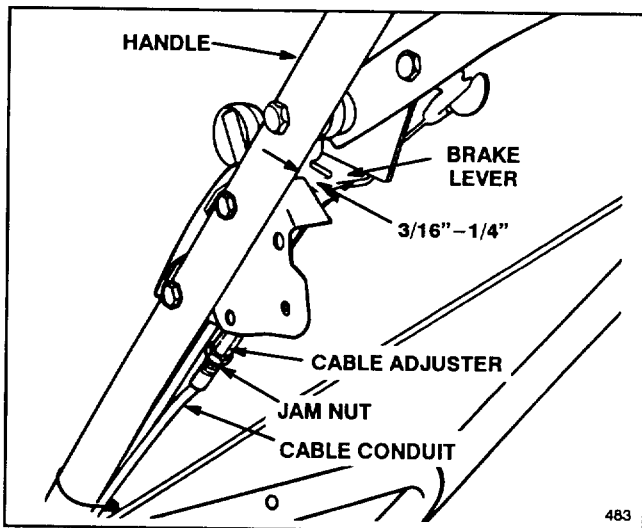

Figure 18
2. CHECK ADJUSTMENT (Fig. 18)—Move control bar toward handle until slack in wire is removed. Gap between brake lever and handle must be  $1/8''-3/16''$ . See step 3 for adjustment.
3. ADJUST CABLE CONDUIT (Fig. 18)—Loosen jam nut on brake cable. Insert  $3/16''-1/4''$  object between brake lever and handle. Turn cable adjuster on brake cable until slack is removed. Then tighten nut.